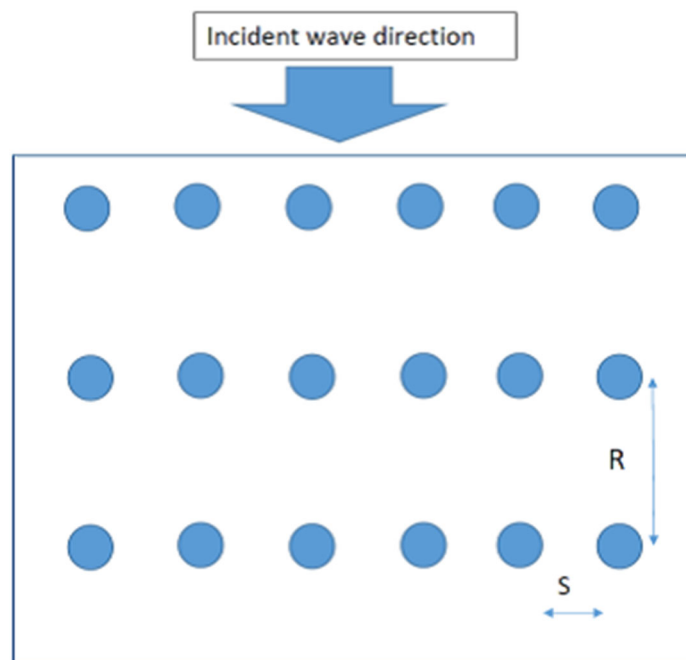

Figure 3.1: Wave farm consisting of 3 rows of 6 point absorbers
- d) Figure 3.1 below illustrates a wave farm which consists of 3 rows of 6 point absorbers. Each point absorber has a diameter (D) of 6 m. The spacing between absorbers (S) is 94 m, and the distance between successive rows (R) is 250 m.